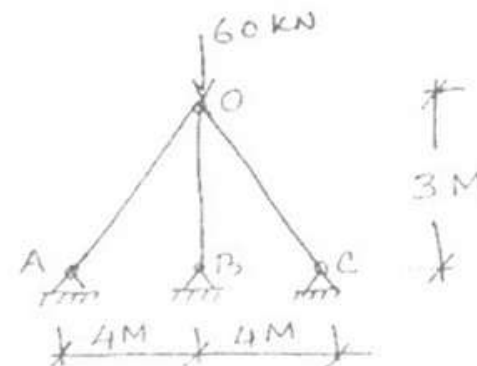

Fig.7
7. Analyse the truss shown in Fig.7 by direct stiffness method.